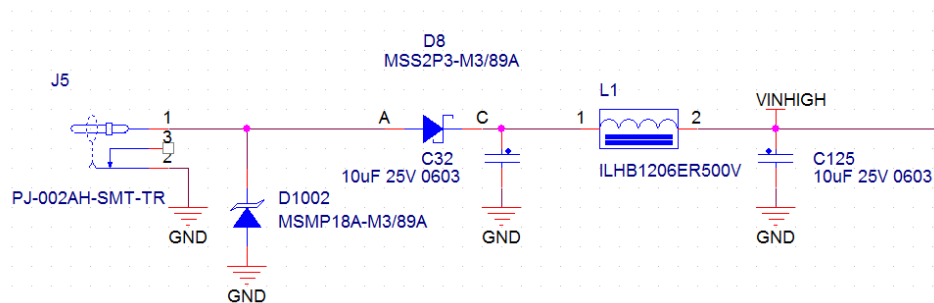

Figure 4 : Power input section
If you plan to power the NOVA**som** P board through the VINHIGH pin (pin 1 of both J9 and J13) consider the insertion of an appropriate choke for EMI filtering. Pay attention on VINHIGH polarity and limits, as the VINHIGH is after the inversion protection diode D8 on the NOVA**som** P board. A wrong VINHIGH connection will immediately destroy the NOVA**som** P board. In Figure 4 you can see the input power schematic part of the NOVA**som** P board.
- Pay attention on VINHIGH polarity and limits, as the VINHIGH is after the inversion protection diode D8 on the NOVASOM P board. A wrong VINHIGH connection will immediately destroy the NOVASOM P board. In Figure 4 you can see the input power schematic part of the NOVASOM P board.